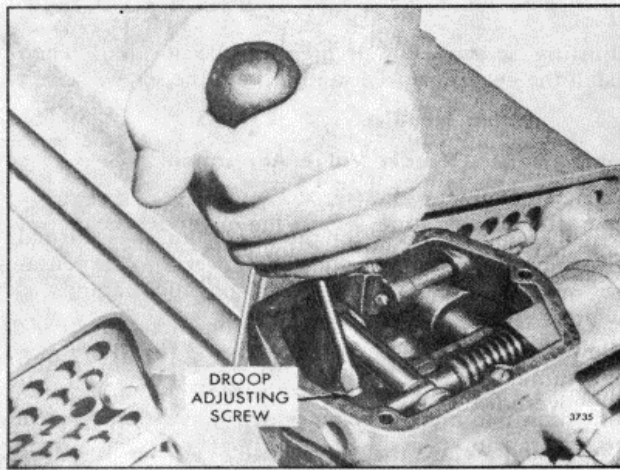

Fig. 19. - Adjusting Speed Droop
4. Loosen the droop adjusting screw (Fig. 19). Move the droop bracket so that the screw is midway between the ends of the slot in the bracket. Tighten the screw.